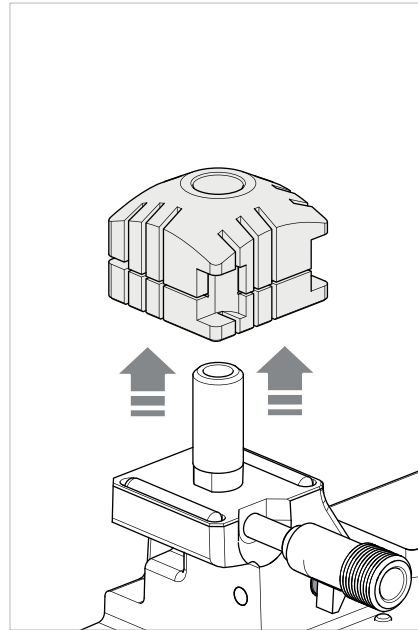

Fig. 42
- 3) Pull the clamp upwards (Fig. 42).